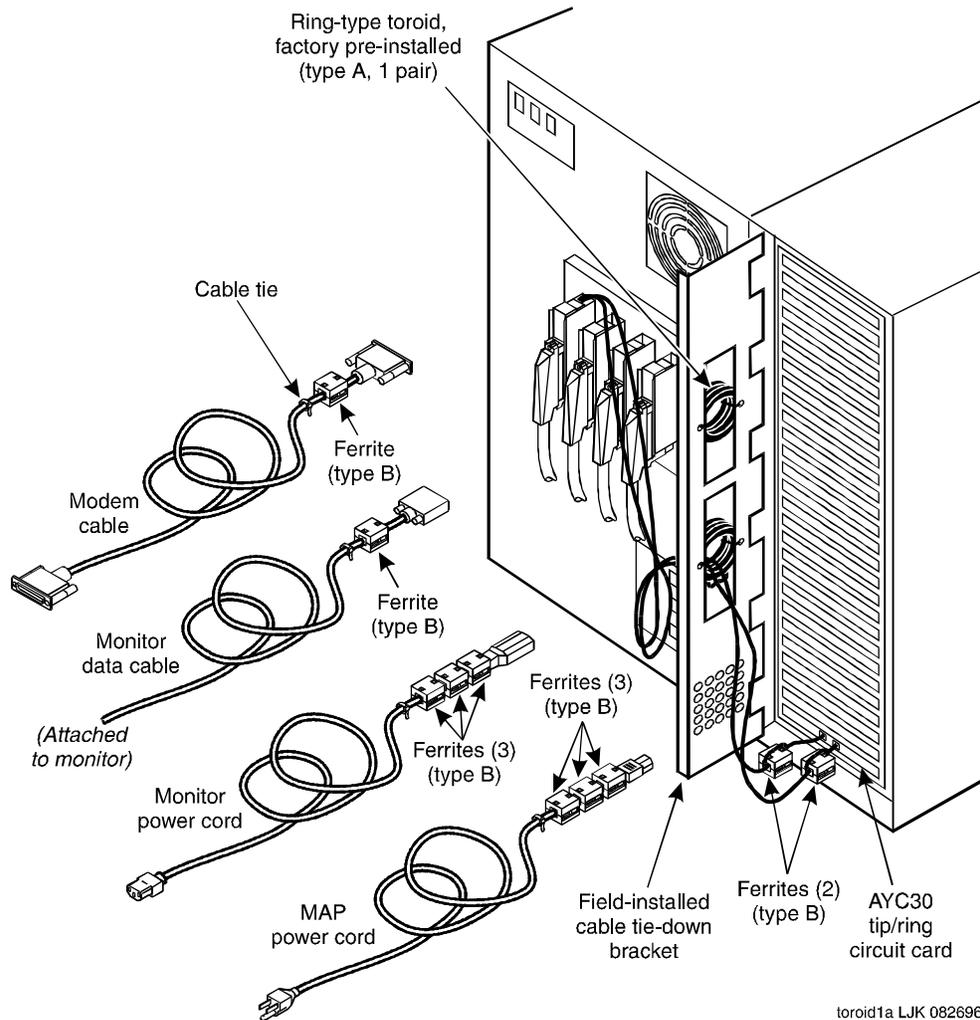

Figure 7-1. Toroid and Ferrite Placement
- Place toroids and ferrites as close as possible to the computer chassis (Figure 7-1).